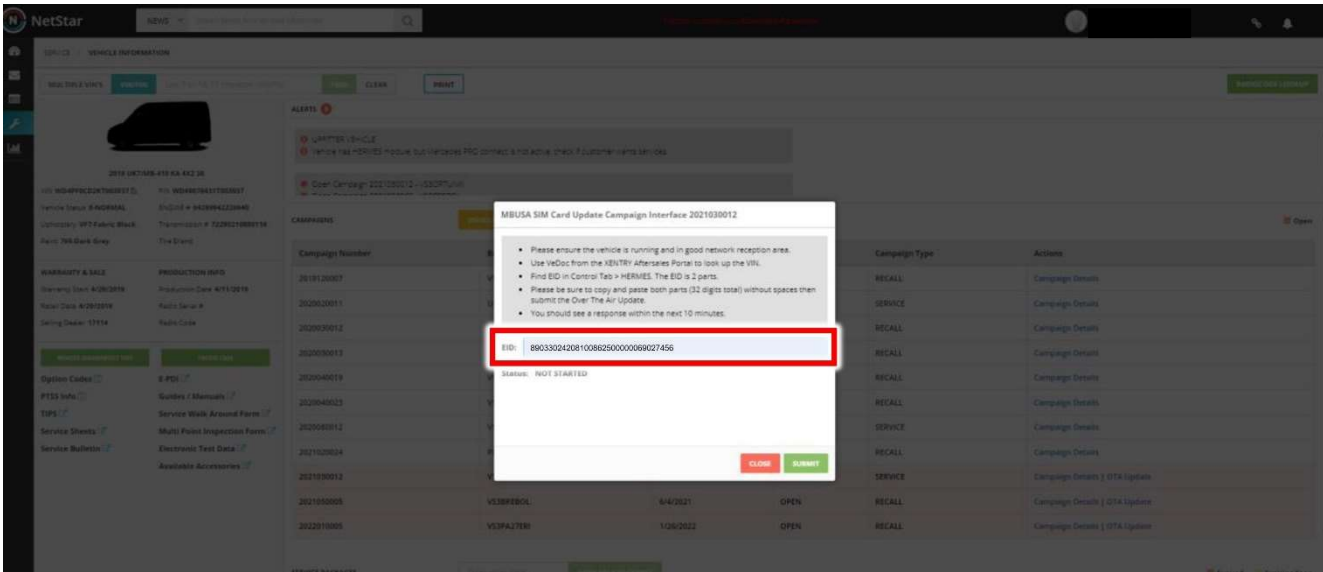

Figure 7 – EID1 + EID2 input
5. Enter the valid EID number and click on "Submit" (Figure 7).